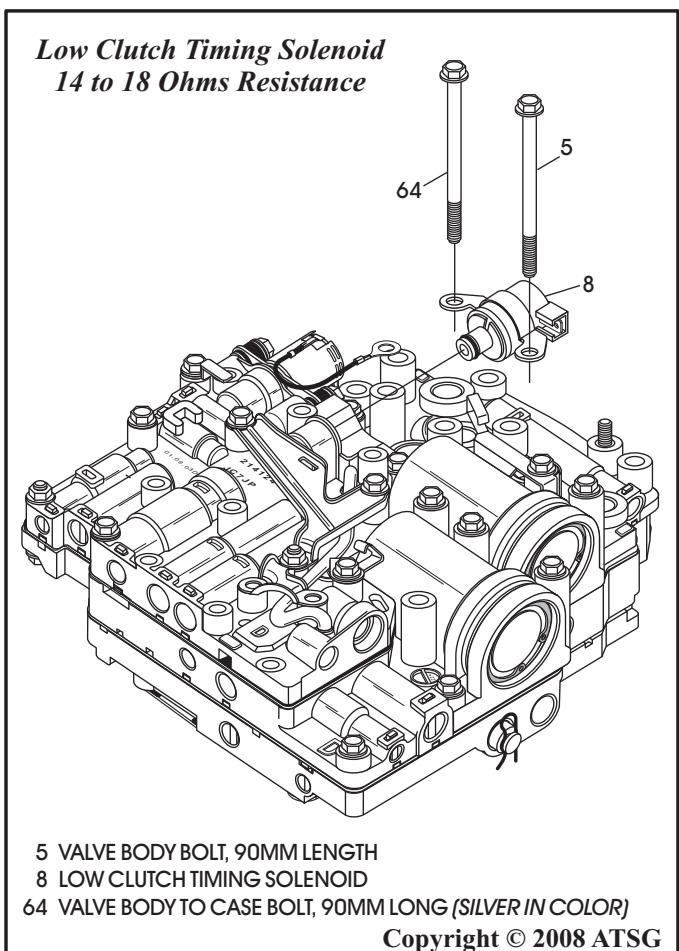

Figure 111
57. Install new "O" ring, lube with ATF and install the low clutch timing solenoid, using one 90mm (5) bolt, as shown in Figure 111.
58. Install one silver valve body to case bolt (64), for alignment purposes, as shown in Figure 111 and torque the gold retaining bracket bolt to, 10 N·m (88 in.lb.), and remove the silver valve body to case bolt.